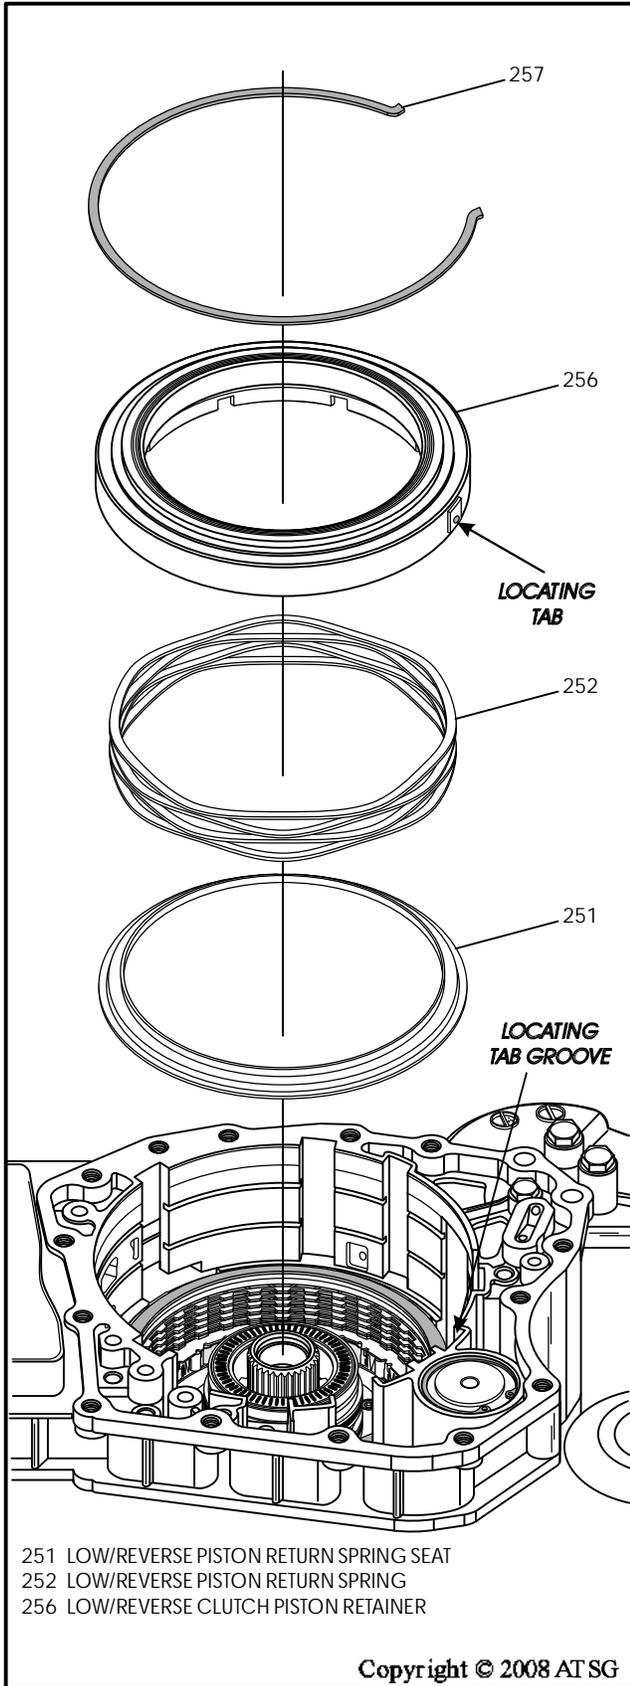

Figure 190
8. Install the low/reverse clutch return spring seat, as shown in Figure 190.
9. Install low/reverse clutch piston return spring, as shown in Figure 190.
10. Install the pre-assembled low/reverse clutch retainer and piston assembly, as shown in Figure 190.
Note: Tab on retainer must align with the groove shown in case in Figure 190.
12. Install the low/reverse clutch retainer snap ring, as shown in Figure 190.